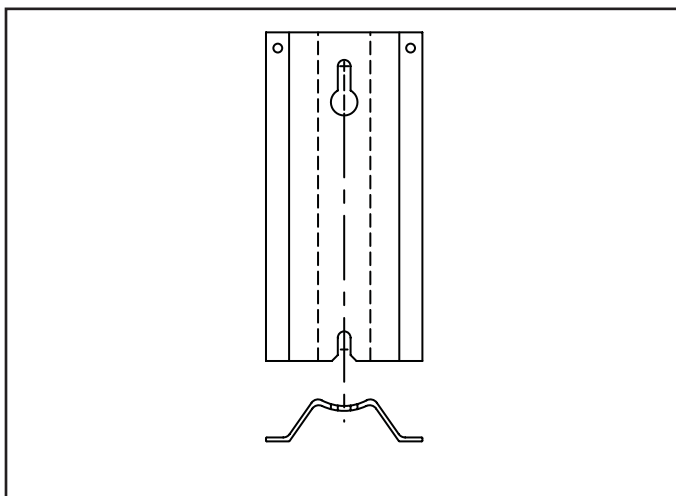

Figure 2.
3. Using the lifting eyes on the rack frame, lift the rack, positioning it at the pole so that the bolts can slip into the slots on the rack pole-mounting bracket. (Figure 2)